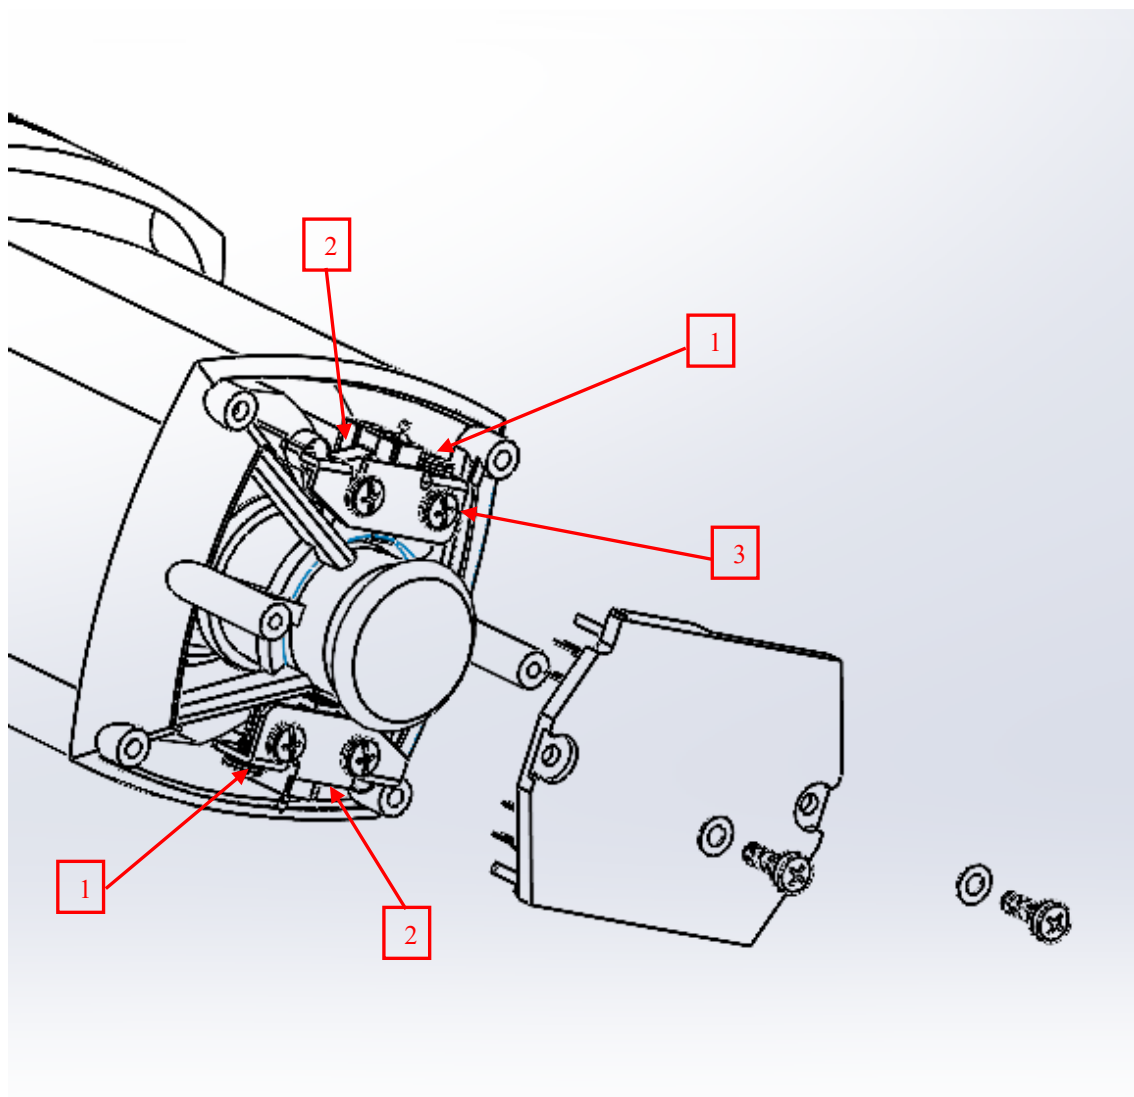

Figure 5.12
- 5.4.2 Loosen the two screws as shown in figure 5.12 – position 1, unhook the springs in position 2 – figure 5.12 – with the help of a screwdriver and unscrew the four screws in position 3 – figure 5.12;